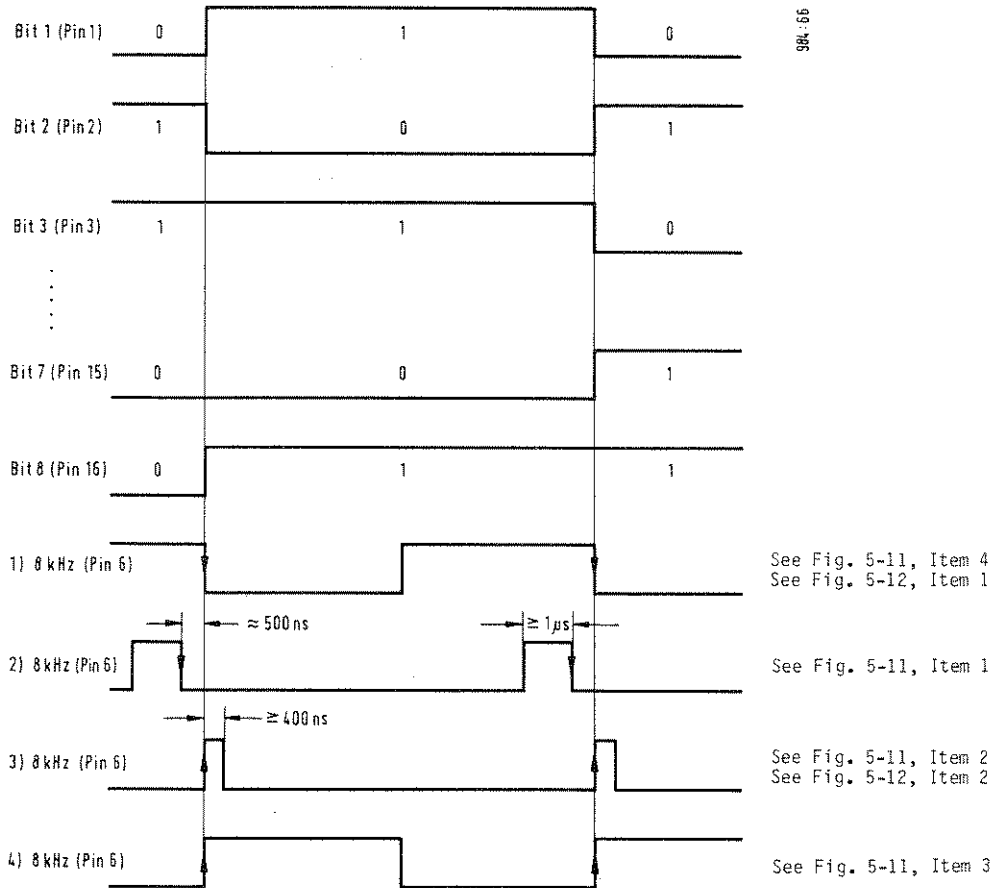
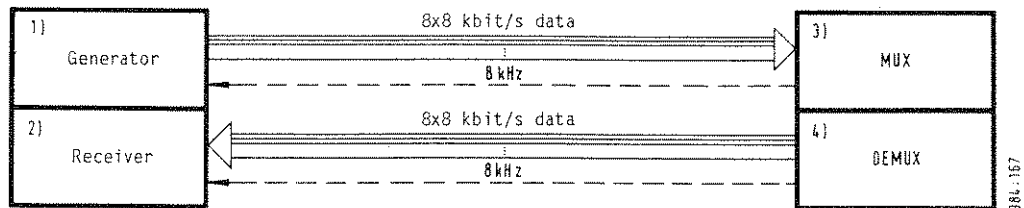

Figure 5-10 TTL signals of the parallel 64 kbit/s interface
Figure 5-11 Parallel 64 kbit/s interface of the PCM-4 in contradirectional setup
This interface has one 24-pin Amphenol socket each for the output and input directions, each of which carries 8 data lines for bits 1 ... 8 of a PCM octet (8x8 kbit/s = 64 kbit/s). The octet structure of the data is marked by a codirectional or contradirectional 8 kHz signal (see fig. 5-10). The signals have TTL levels.
- 1) Parallel 64 kbit/s output of the PCM-4 operating as a 64 kbit/s generator (parameter 112 or 113) with contradirectional 8 kHz signal. The data at the octet output change approx. 500 ns after the negative edge of the 8 kHz input signal. The minimum HIGH or LOW pulse duration of the 8 kHz signal is 1  $\mu$ s (see fig. 5-10, item 2).
- 2) Parallel 64 kbit/s input of the PCM-4 operating as a 64 kbit/s receiver (parameter 112 or 114) with codirectional 8 kHz signal. The data at the octet input must be valid at the positive edge of the codirectional 8 kHz input signal. The minimum HIGH or LOW pulse duration of the 8 kHz signal is 400 ns (see fig. 5-10, item 3).
- 3) Parallel 64 kbit/s input of the PCM-4 operating as a multiplexer (parameter 212 or MODE B92) with contradirectional 8 kHz signal. The data present at the octet input must be valid at the positive edge of the contradirectional 8 kHz output signal (see fig. 5-10, item 4).
- 4) Parallel 64 kbit/s output of the PCM-4 operating as a demultiplexer (parameter 222 or MODE B92). The data at the octet output change with the negative edge of the codirectional 8 kHz output signal (see fig. 5-10, item 1).
- 1) Parallel 64 kbit/s output of the PCM-4 operating as a 64 kbit/s generator (parameter 112 or 113) with codirectional 8 kHz signal. The data at the octet output change with the negative edge of the 8 kHz output signal (see fig. 5-10, item 1).
- 2) See fig. 5-11, item 2.
- 4) See fig. 5-11, item 4.
- 9 SF (see Fig. 5-11, Item 2)
NB: Fig. 5-10, item 3, and fig. 5-11, item 2.
NB: Switch setting for generator operation with contradirectional 8 kHz signal (see fig. 5-11, item 1):
NB: DEMUX operation is only possible with codirectional 8 kHz signal (see fig. 5-11, item 2):